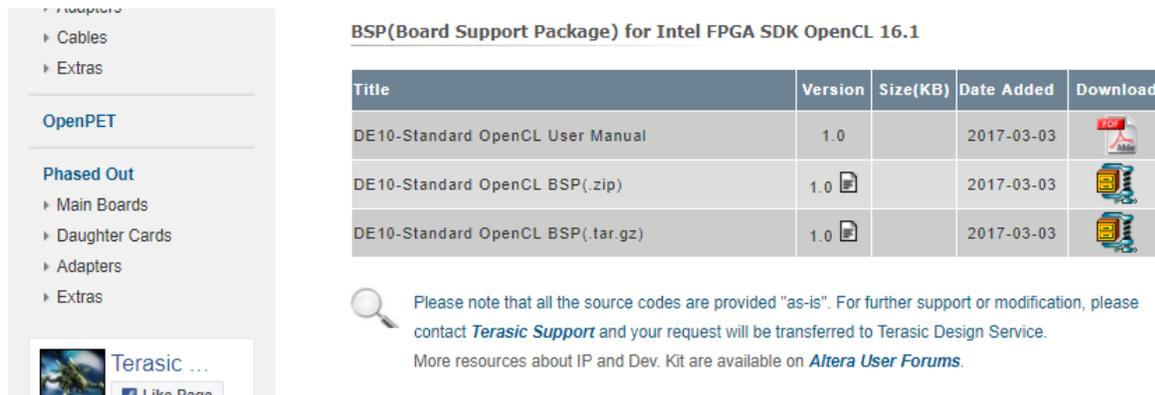

Figure 7. Terasic’s Board Support Package version and download
3. Go to the *Resources* tab and scroll down to find the **BSP(Board Support Package) for Intel FPGA SDK OpenCL** for your board, as shown in Figure 7.